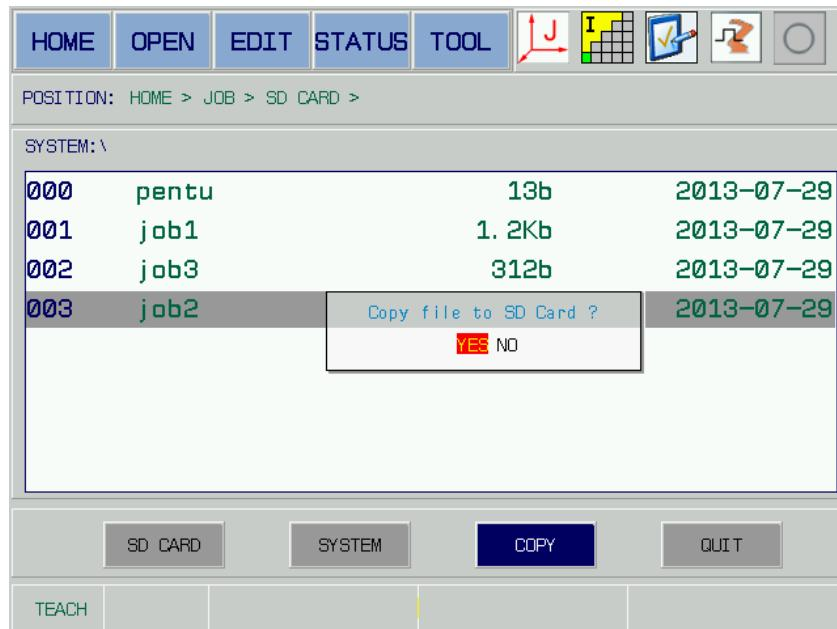

Fig. 5-23
3. Move the cursor on the program “job2.prl” to be copied by [TAB] and up/down direction buttons; the system may prompt “Confirm the copied file to U disk?” by [SELECT] (or shift the cursor to the [Copy] button in the area 2, and then press the [SELECT]); refer to the Fig. 5-23.